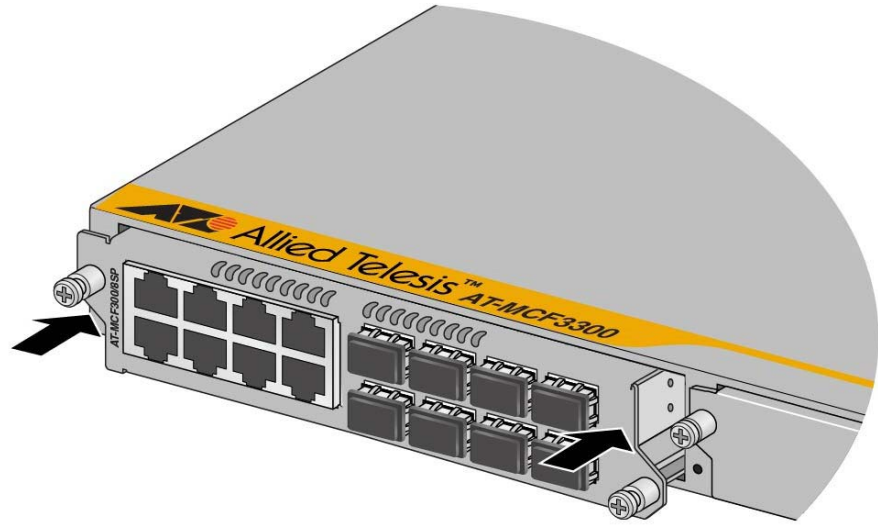

Figure 27. Seating a Media Converter Module on the Backplane Connector
5. Gently press on both sides of the faceplate to seat the module on the backplane connector in the chassis. Refer to Figure 27 on page 66.